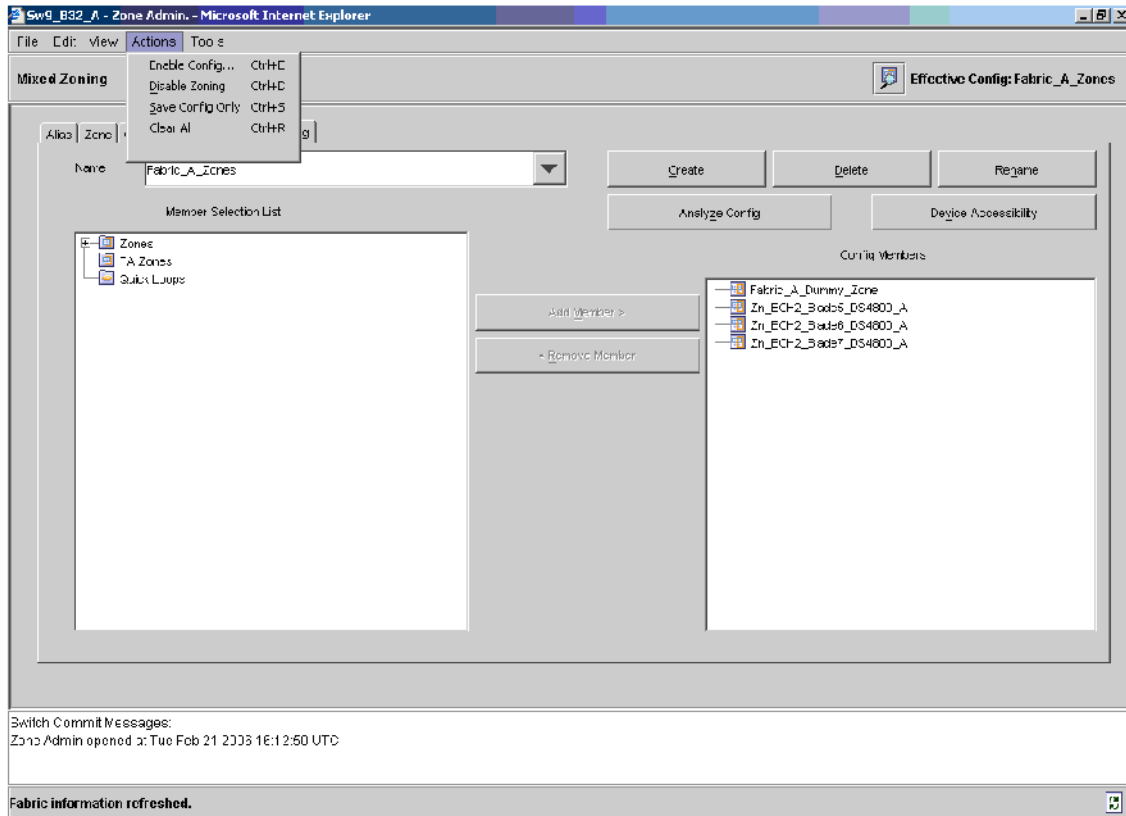

Figure 5-63 Options for zone actions
3. Enable the zone config with the new zone definitions. From the upper tool bar, select **Actions** and **Enable Config** (see Figure 5-63).